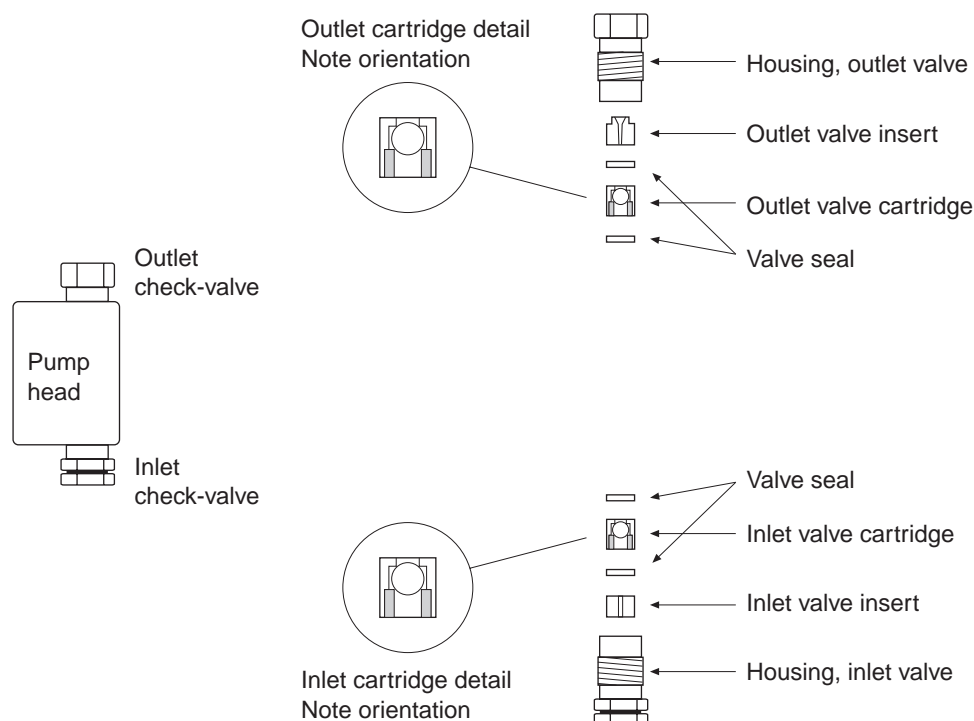

Figure 4-4. Check-valve assemblies
1. Remove the check-valve cartridge from its housing (Figure 4-4).